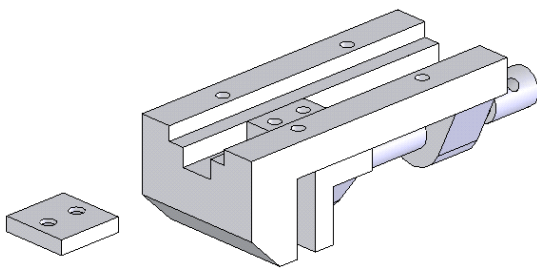

Figure 10-67 Rotated assembly
- Next, assemble the Clamping Plate, refer to Figures 10-67 through 10-70.
2. Rotate the assembly such that the bottom face of the assembly is displayed as shown in Figure 10-67.